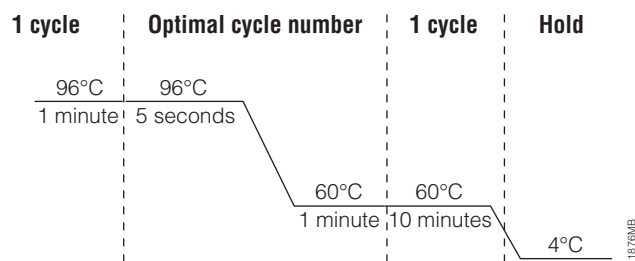

Figure 3. Thermal cycling protocol for the GeneAmp® PCR System 9700, Veriti® 96-Well Thermal Cycler and ProFlex® PCR System.
2. Select and run the recommended protocol, which is provided below and in Figure 3. The total cycling time is approximately 1 hour.